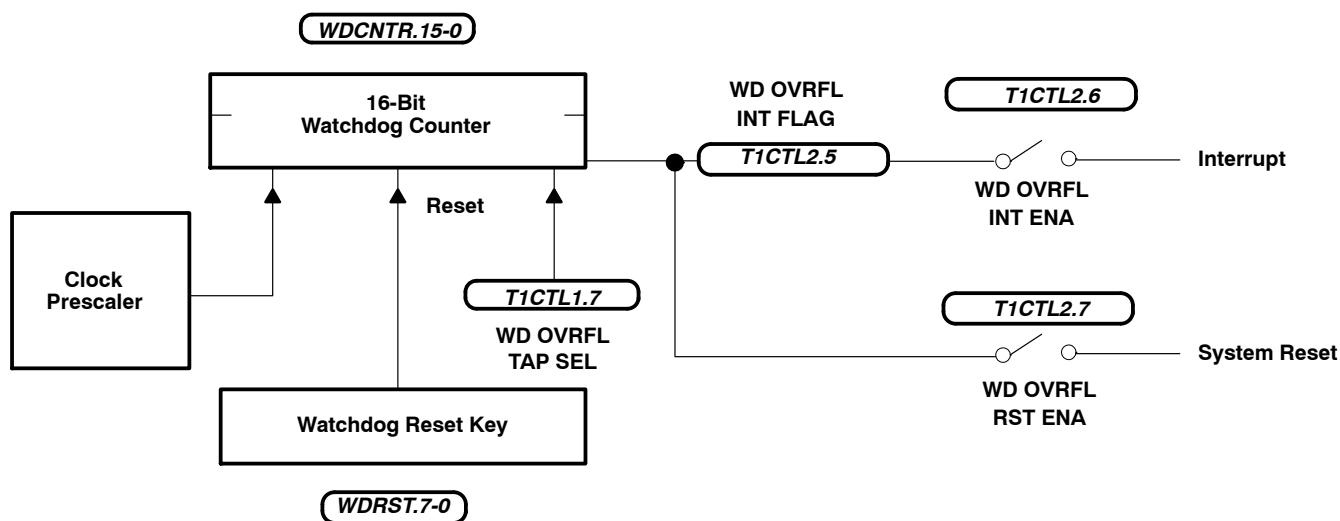

Figure 9. Standard Watchdog
- Standard watchdog configuration for mask-ROM devices only (see Figure 9)